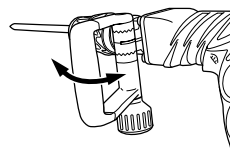
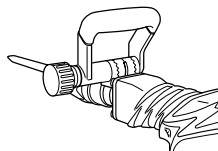
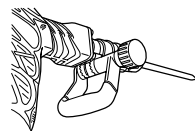

Fig. 6
Fig. 7
Fig. 8
- (2) Adjust it to a position where vertical (up-and-down) operation can be facilitated as illustrated in Fig. 6, Fig. 7, and Fig. 8.
- (3) Turn the grip in the direction of ② and fix the handle.